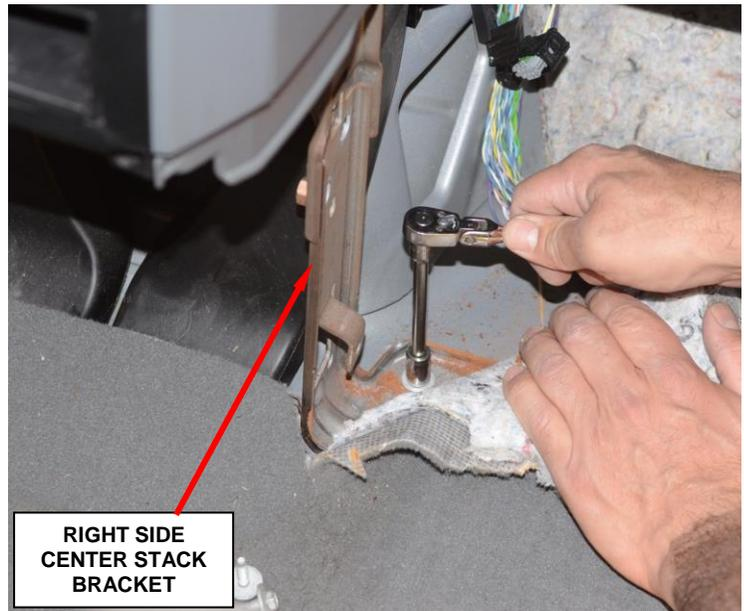

Figure 1 – Right Side Center Stack Bracket
6. Remove and save the right side center stack bracket (Figure 1).
17. Install the right side center stack bracket (Figure 1).